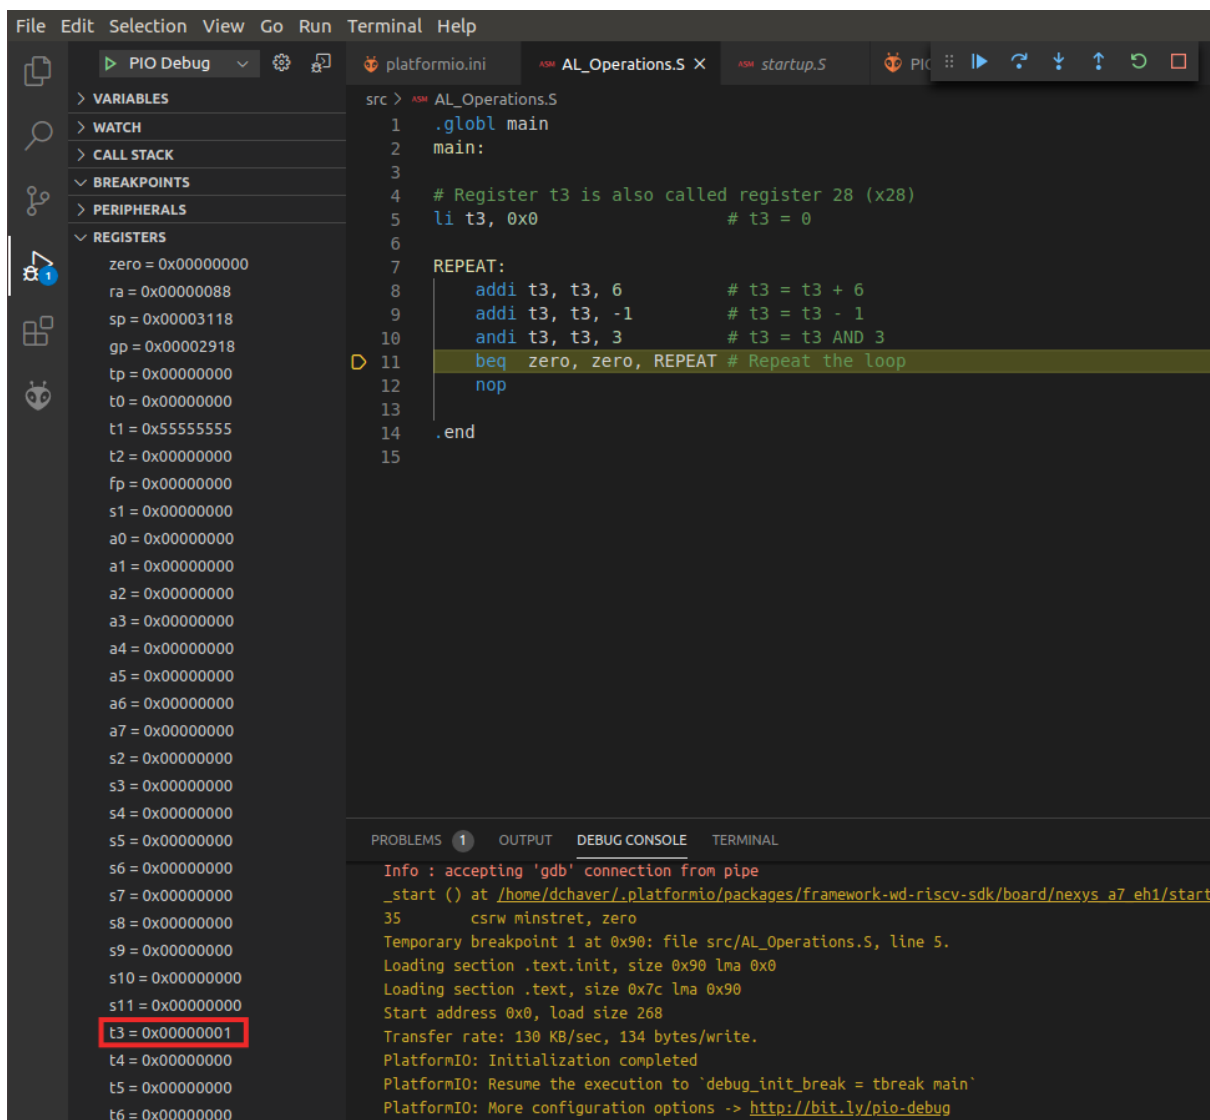

Figure 111. Viewing register contents
7. Expand the Registers option in the Debugger Side Bar and continue the execution step-by-step . You will observe that register `x28` (also called `t3`, as shown in the REGISTERS section) stores the results of the three arithmetic-logic operations: *addition*, *subtraction*, and *logical AND*. See Figure 111.